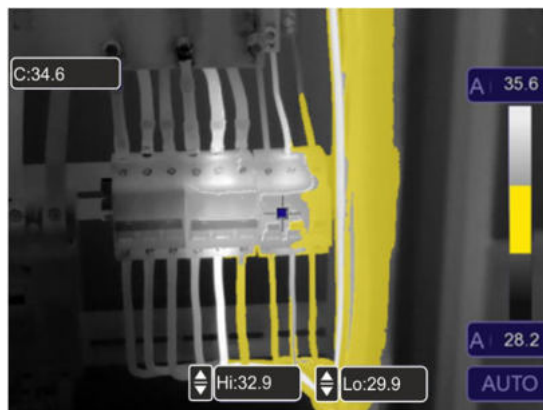

Fig. 42: Selection of isotherm line Alarm Temp. range
- Touch the “Hi” and “Lo” field at the bottom of the display and use the arrow keys ▲ or ▼ to set the value of the **maximum** and **minimum** temperature threshold. The instrument shows the image spots with temperature between the “Lo” and the “Hi” threshold in orange colour, and the remaining spots in grey colour (see Fig. 42).